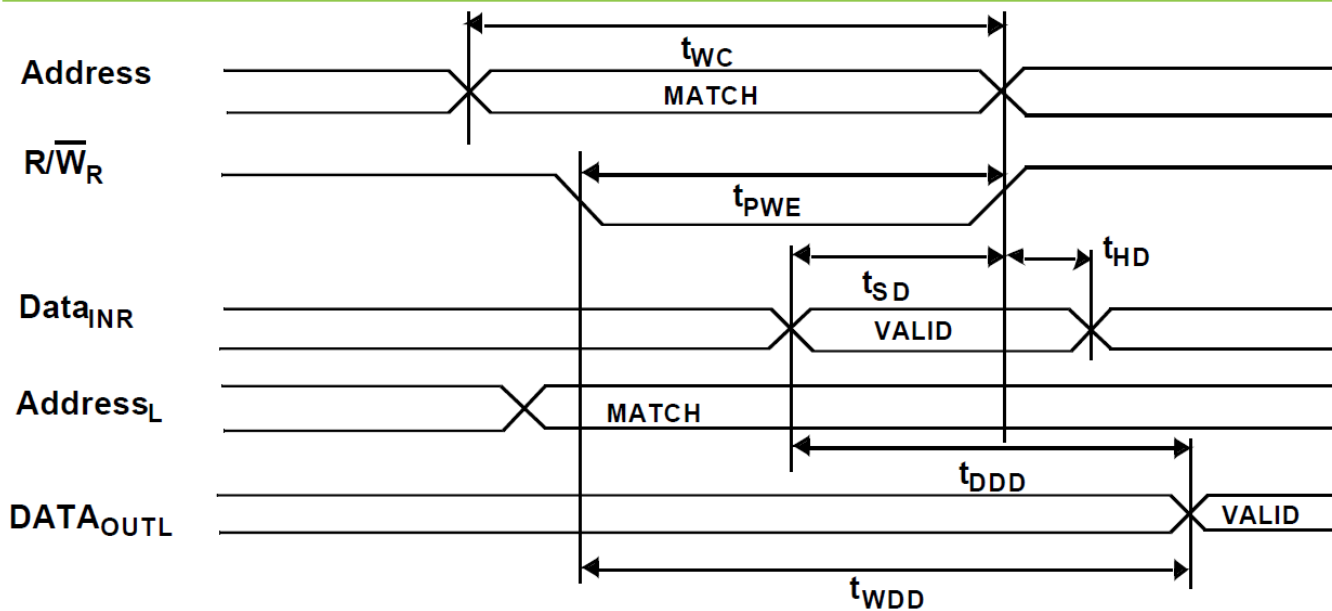

Figure 3c: Read Timing with Port-to-Port Delay
- 1) For information on part-to-part delay through DPRAM cells from writing port to reading port, refer to Read Timing with Port-to-Port Delay waveform (see figure 3c).